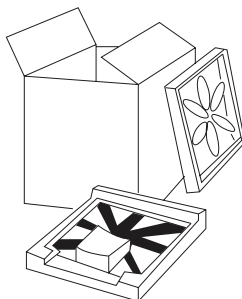

Fig. 1
- As shown in figure 1, remove all the packing materials (including the foam base).